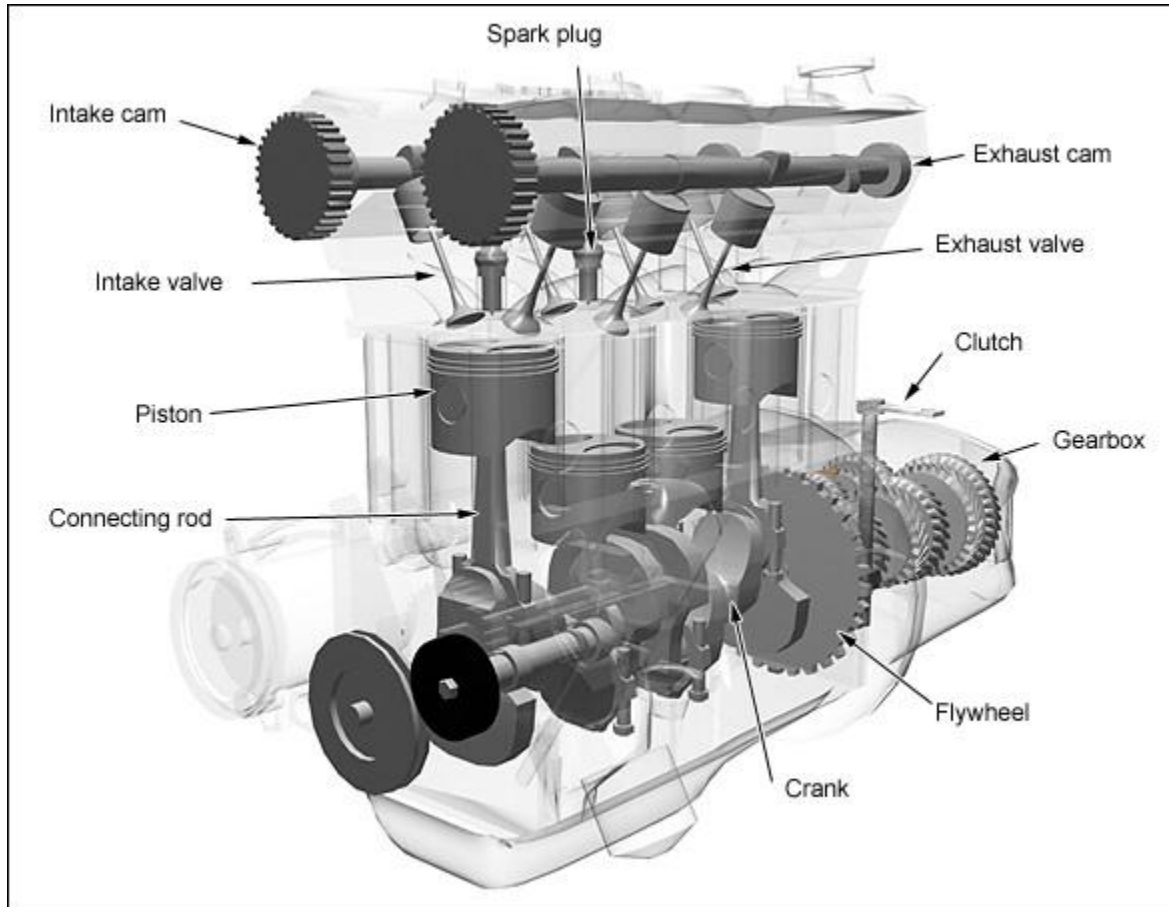
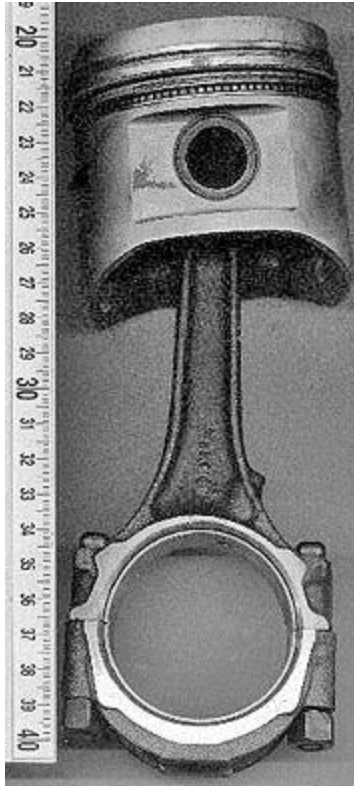
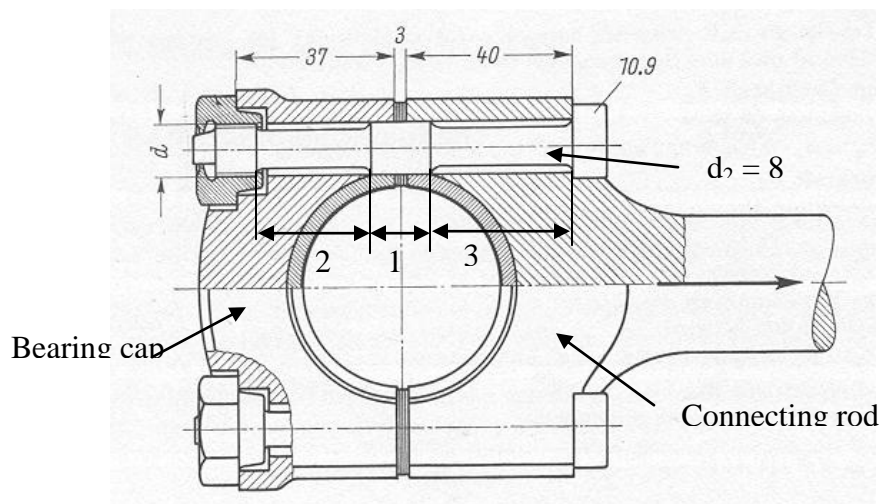

Figure 1 – Typical Four Cylinder Internal Combustion Engine.
Figure 2 – A Connecting Rod
Figure 3 – Connecting Rod Drawing and Dimensions (all dimensions are in millimeters)
In Figure 1, a drawing of a typical four-cylinder internal combustion (IC) engine is given. The four pistons drive a crankshaft through the connecting rods. In Figure 2, a picture of a typical connecting rod is given. In Figure 3, a detailed drawing is given of one of the connecting rod connection to the crankshaft.
As you see in Figure 3, two bolts connect the bearing cap to the connecting rod. Your concern is the bolt-nut combination used for clamping the bearing cap on the connecting rod in Figure 3. The bearing cap is made of gray cast iron, whereas the connecting rod is made out of carbon steel. The modulus of elasticity E for carbon steel is 207 GPa. The modulus of elasticity E for cast iron is 100 GPa. The diameter (d) of the bolt hole is 10 mm - the same as the outer diameter
of the bolt shank at its thickest point. As shown in Figure 3, the bolts have two slender areas where the shank diameter d_2 is 8 mm. M10 coarse pitch bolts grade 10.9 are used with a proof strength of 830 Mpa and a thread tensile stress area of 58.0 mm^2 .
- a) Calculate the stiffness of the bolt in Figure 3. (2 pts)
- f) The shape of the nuts used in Figure 2 is different than regular nuts that you typically see. Can you explain what the purpose (or intended purpose) of these special nuts is? (1 pt)